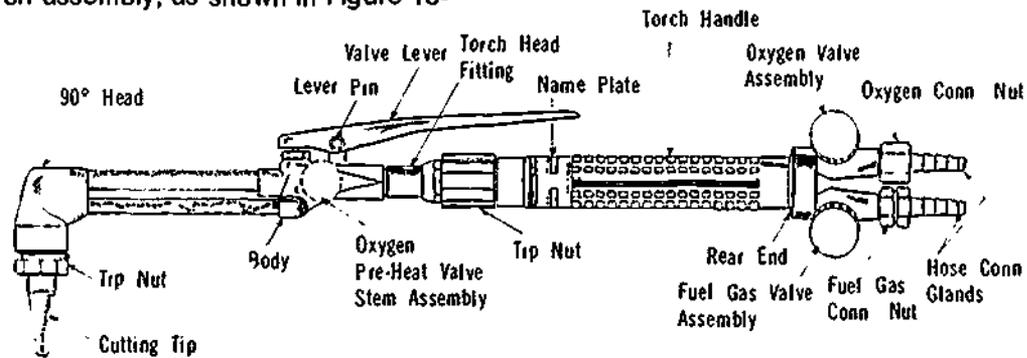

Figure 18-21. Components of Cutting-Torch Handle
b) To prepare the welding torch for flame-cutting, remove the tip and the tip nut and replace them with the cutting torch assembly, as shown in Figure 18-21.